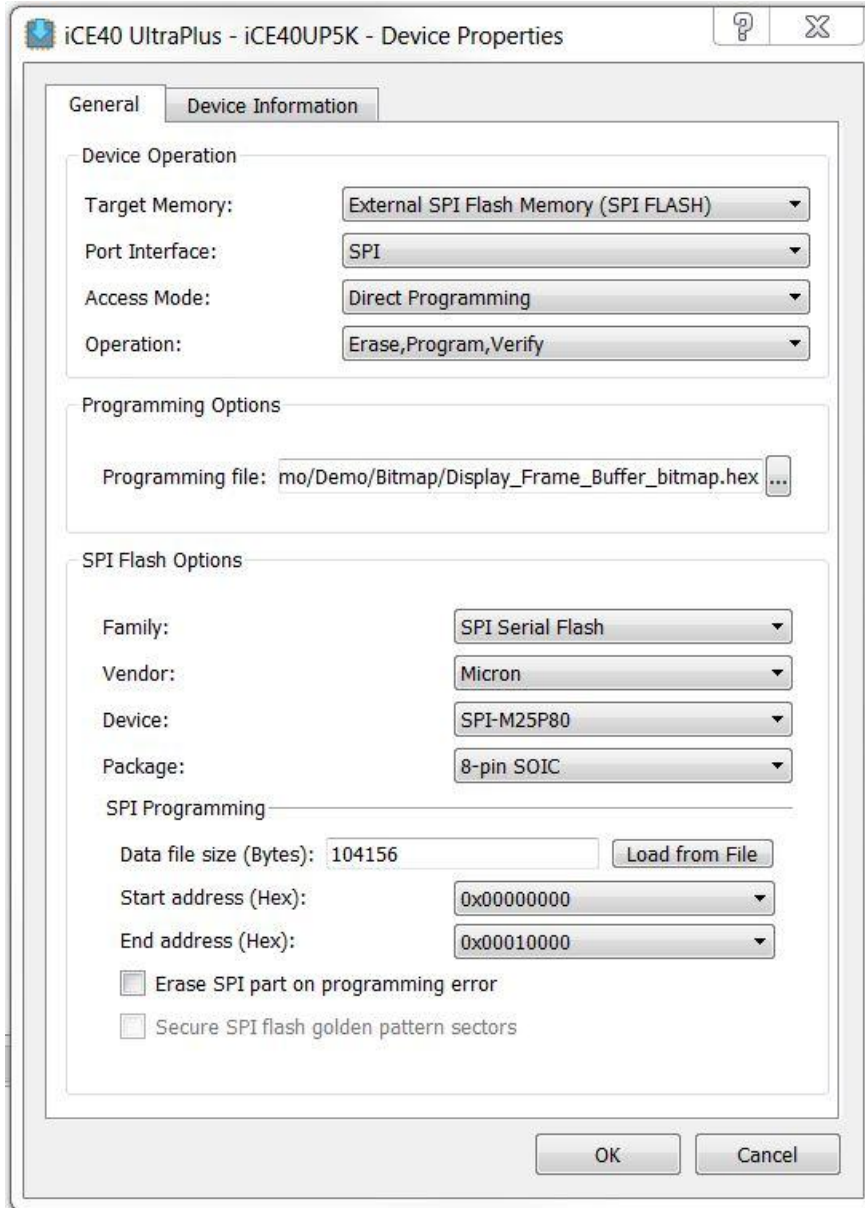

Figure 4.3. Device Properties Dialog Box
11. From the menu bar, select **Edit > Device Properties** to open the Device Properties window. Apply the settings as shown in Figure 4.3.